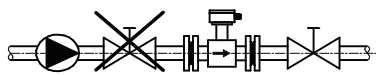

Figure 2.5
4. Stop valves must be located downstream of the sensor (see Figure 2.5), ensuring that the sensor does not run dry when the valve is closed.